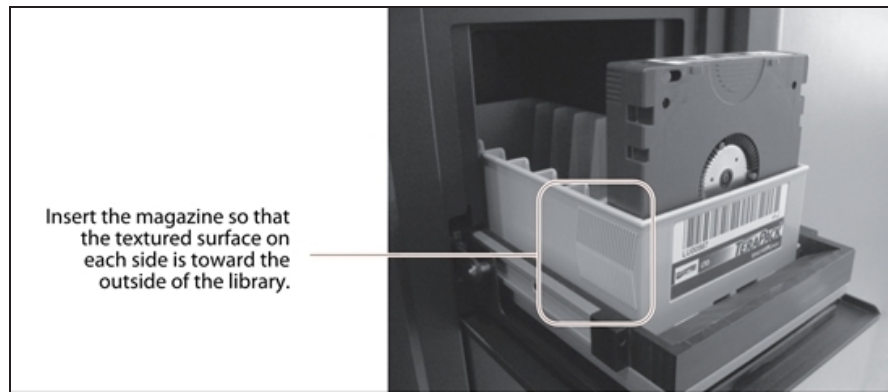

Figure 71 Insert a magazine into the TAP, making sure that it is correctly oriented.
3. Insert the magazine into the tray on the open TAP with the textured surface side toward the outside of the library, as shown in Figure 71 on page 131.
4. Click **Open TAP** to access the exported magazine. Exchange the magazine or any desired media in the TAP then click **Close TAP**. If you exchange a magazine, make sure the new magazine is oriented correctly (see Figure 71 on page 131).